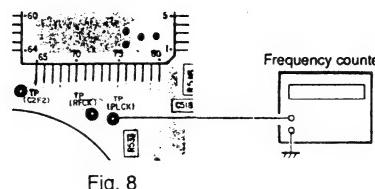

Fig. 8
- Connect frequency counter to test point "PLCK" (Fig. 8).